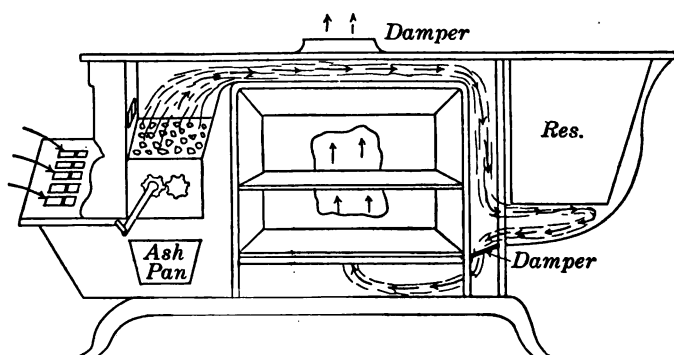

FIGURE 33.—DRAFT IN A KITCHEN RANGE.
58. Draft in a Kitchen Range. — Figure 33 shows the ordinary kitchen range. The air enters at the front and